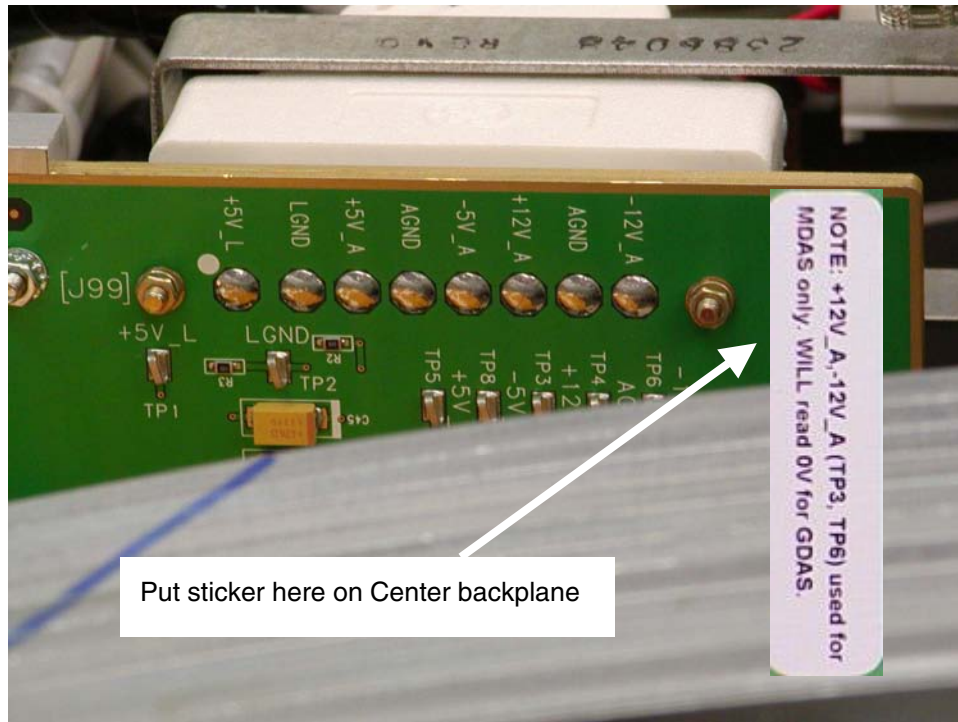
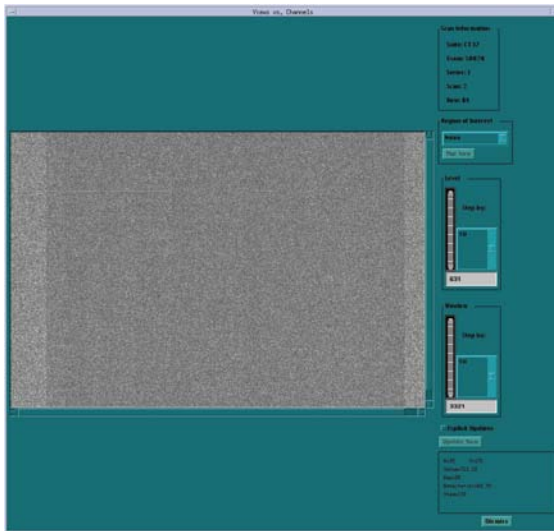
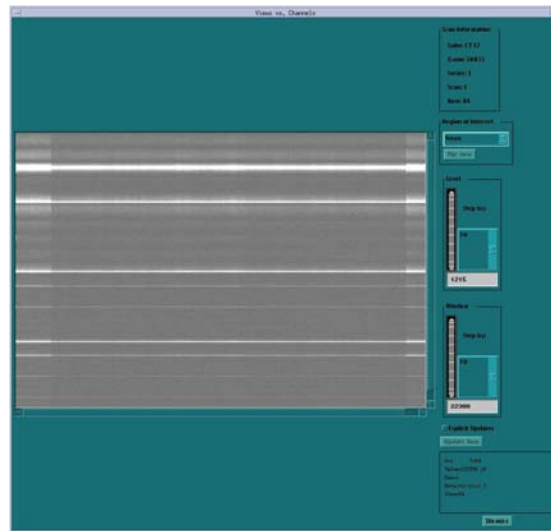

Figure 6 Center Backplane sticker and location
Figure 7 Noise data - good sample
Figure 8 Noise data - bad sample
17. Install supplied label on the DAS center backplane in the location shown in Figure 6 Center Backplane sticker and location. This sticker is a reminder that the 12V test point is not used on GDAS systems. This backplane will be common to MDAS16 and GDAS.
7. From the Common Service Desktop start **Scan Analysis**; select the scan file matching the date/time of the DDC scan. Select **[Plot VVC]** to view the data from the DDC scan. Select **"FFT Channel Data"** option. Figure 7 below shows a good noise data sample and Figure 8 shows a bad noise data sample.
8. If the data plot seen matches Figure 8, continue with the Backplane resistor check and save this scan file to the supplied DVD along with the scan file taken prior to power supply replacement. If the data plot matches Figure 6, call the OLC for support.